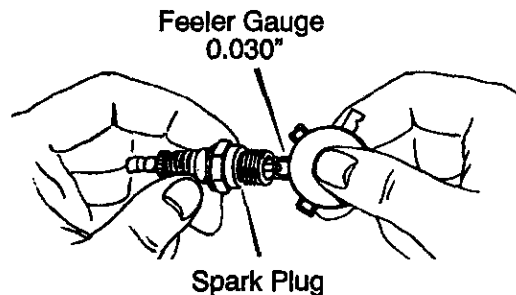

Figure 19
2. Check the **spark plug** gap with a **feeler gauge** and reset gap to 0.30" if necessary. See Figure 19.